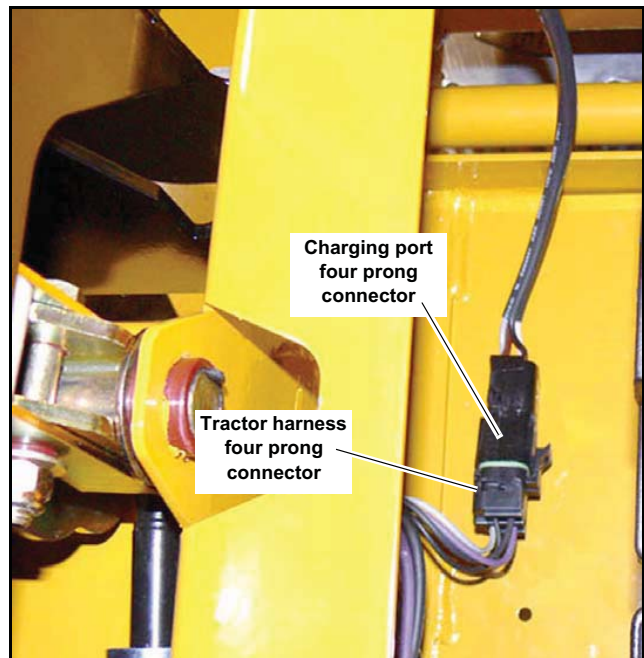

Fig. 5-10
2. Remove the battery hold down and battery cover. Fig. 5-10
3. Unplug the tractor harness four prong connector from the charging port connector. Fig. 5-10
4. Disconnect the negative (black) battery cable from the negative battery terminal on the rear battery (rear right battery terminal). Fig. 5-10
5. Disconnect the positive (red) battery cable from the positive battery terminal on the front battery (front left battery terminal). Fig. 5-10
5. Connect the tractor harness four prong connector to the charging port connector. Fig. 5-10
8. Connect the positive (red) battery cable to the positive battery terminal on the front battery (front left battery terminal). Fig. 5-10
10. Re-install the battery cover and battery hold down. Fig. 5-10
11. Connect the negative (black) battery cable to the negative battery terminal on the rear battery (rear right battery terminal). Fig. 5-10